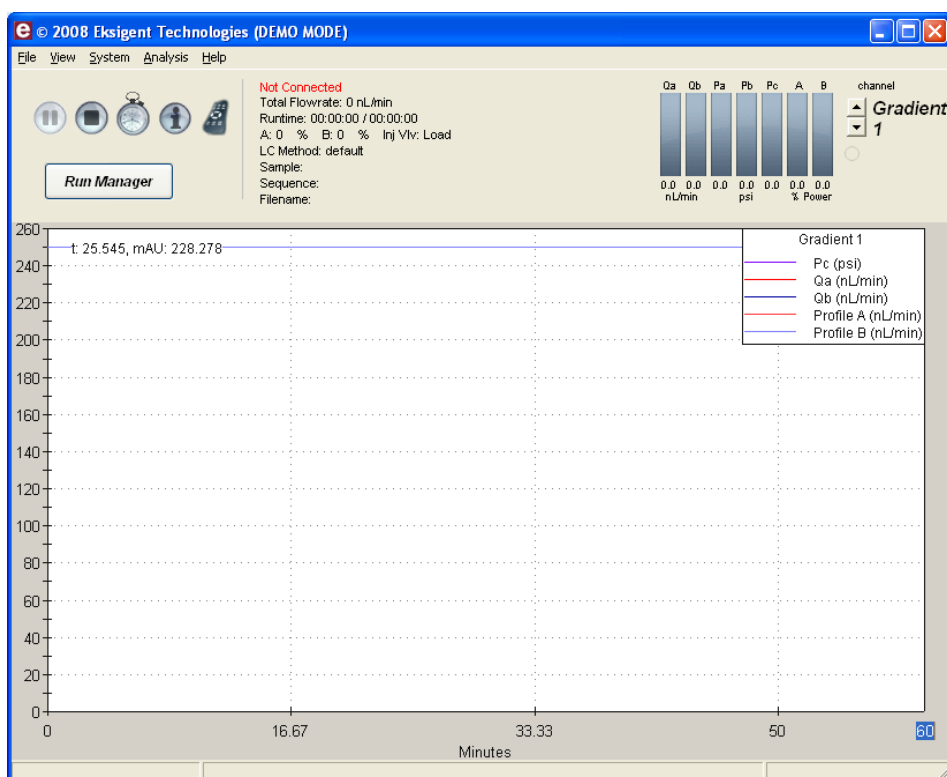

Figure 2-12 Acquisition Window
7. Click **OK** to enter the software in DEMO MODE and display the **Acquisition** window (Figure 2-12) .
16. Click **OK** to go back to the **Acquisition** window (Figure 2-12).